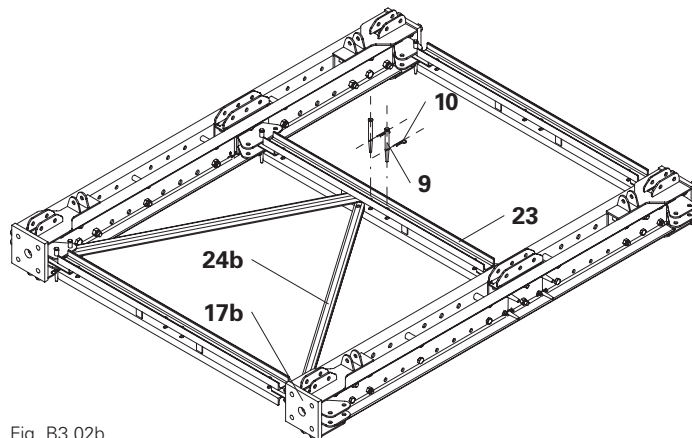

Fig. B3.02b
4. Swivel second diagonal strut VST 200/150 (**24b**)* into the horizontal ledger VST 200 (**23**). (Fig. B3.02b)